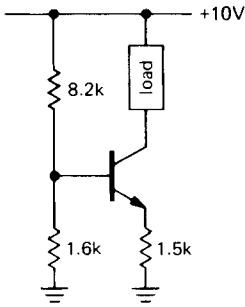

Figure 2.79
(2) Consider the current source in Figure 2.79. (a) What is I_{load} ? What is the output compliance? Assume V_{BE} is 0.6 volt. (b) If h_{FE} varies from 50 to 100 for collector voltages within the output compliance range, how much will the output current vary? (There are two effects here.) (c) If V_{BE} varies according to $\Delta V_{BE} = -0.0001 \Delta V_{CE}$ (Early effect), how much will the load current vary over the compliance range? (d) What is the temperature coefficient of output current assuming that h_{FE} does not vary with temperature? What is the temperature coefficient of output current assuming that h_{FE} increases from its nominal value of 100 by $0.4\%/^{\circ}\text{C}$?
(3) Design a common-emitter npn amplifier with voltage gain of 15, V_{CC} of +15 volts, and I_C of 0.5mA . Bias the collector at $0.5V_{CC}$, and put the low-frequency 3dB point at 100Hz .
(4) Bootstrap the circuit in the preceding problem in order to raise the input impedance. Choose the rolloff of the bootstrap appropriately.
(5) Design a dc-coupled differential amplifier with voltage gain of 50 (to a single-ended output) for input signals near ground, supply voltages of ± 15 volts, and quiescent currents of 0.1mA in each transistor. Use a current source in the emitter and an emitter follower output stage.
(6) In this problem you will ultimately design an amplifier whose gain is controlled by an externally applied voltage (in Chapter 3 you will see how to do the same thing with FETs). (a) Begin by designing a long-tailed pair differential amplifier with emitter current source and no emitter resistors (undegenerated). Use ± 15 volt supplies. Set I_C (each transistor) at 1mA , and use $R_C = 1.0\text{k}$. Calculate the voltage gain from a single-ended input (other input grounded) to a single-ended output. (b) Now modify the circuit so that an externally applied voltage controls the emitter current source. Give an approximate